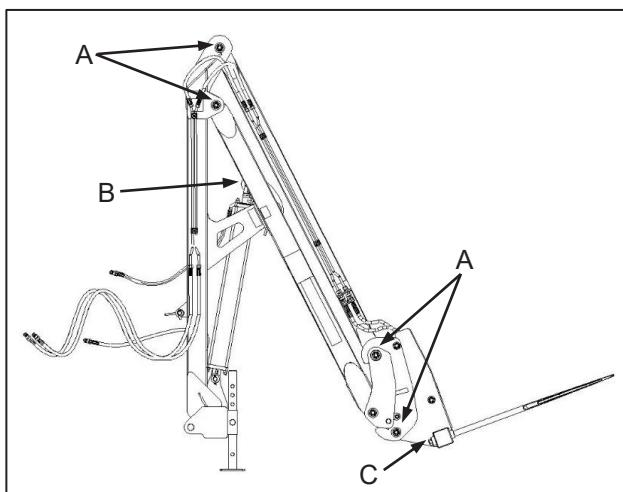
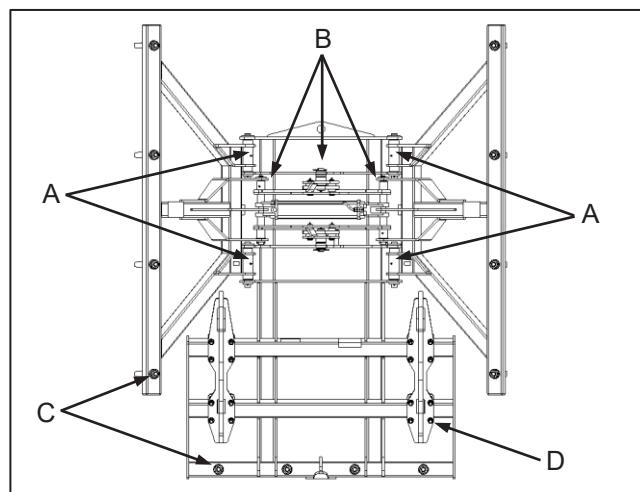

Fig. 1
Fig. 2
- ✓ Check all fasteners for tightness. This includes special attention to safety-critical fasteners such as pivot pin retaining nuts (Fig. 1-A), hitch plate retaining bolts (Fig. 2-D), and bale spike mounting points (Fig. 1-C / 2-C / 3-B) – see Bale Spike Fitting elsewhere in this section.
- ✓ Verseker dat alle hegstuks is. Dit sluit in spesiale aandag aan veiligheidskritieke hegstuks soos spilpen-keermoeke (Fig. 1-A), koppelplaat-klemboute (Fig. 2-D) en baalpenmonterepunte (Fig. 2-C / 3-B) – kyk Baalpenmontering elders in hierdie afdeling.
- ✓ On Uniloader® models, ONLY the upper clevis spherical bearing (Fig. 1-B) requires greasing before use. The rest of the articulation points contain maintenance-free, self-lubricating bushes.
- ✓ On the Bale Grab, apply lubrication to all supplied grease nipples (Fig. 2-A / 2-B).
Special attention should be given to the bale spikes and mounting points (Fig. 1-C).
- ✓ Op Uniloader®-modelle benodig SLEGS die boonste sferiese laer (Fig. 1-B) ghries voor gebruik. Die res van die artikulasiepunte bevat onderhoudsvrye, selfsmerende busse.
- ✓ Ghries alle verskafde ghriesnippels (Fig. 2-A / 2-B) op die Bale Grab.
Spesiale aandag moet aan die baalpenne en monterepunte geskenk word (Fig. 1-C).